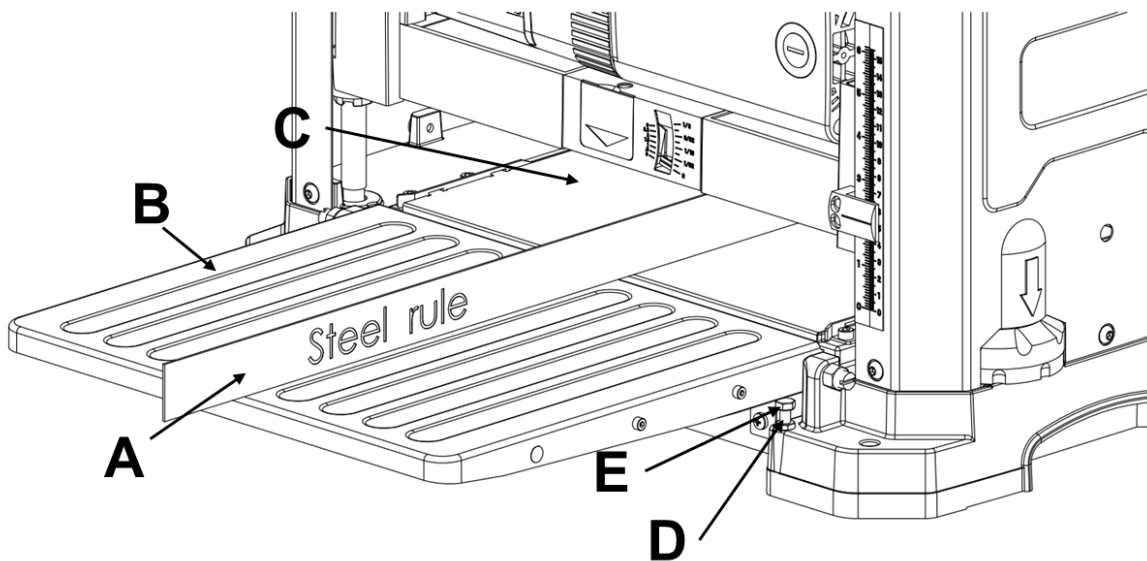

FIG 5
1. Lay a straight edge (A) on the planer table (C) with one end of the straight edge over the infeed table (B). SEE FIG 5.
3. If an adjustment is necessary, raise table, loosen lock nuts (D) and adjust Hex Head Screws (E) on each side of the table until the infeed table is level with the planer table. This will adjust the outer edge of the table.